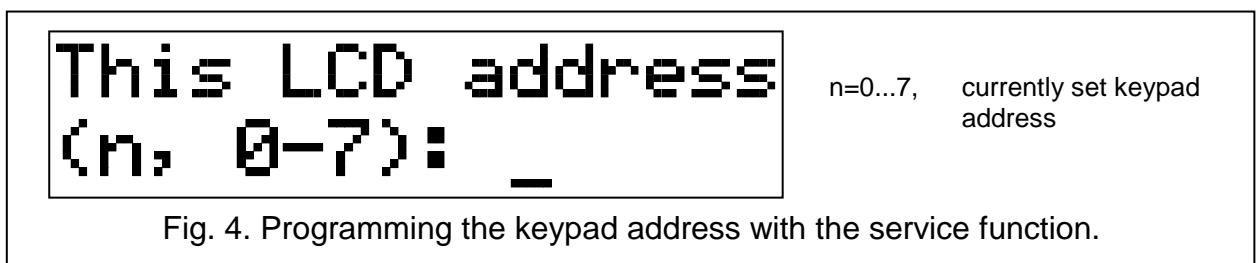

Fig. 4. Programming the keypad address with the service function.
4. The message shown in Fig. 4 will appear on display of all keypads connected to the control panel.